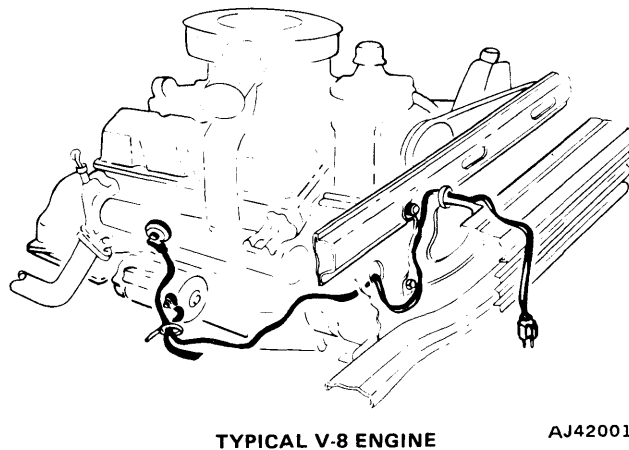

Fig. 2-18 Engine Block Heater Installation
- (1) Drain coolant from engine.
- (2) Remove core plug and install block heater (fig. 2-18). Tighten six-cylinder T-bolt to 20 inch-pounds torque. Tighten V-8 compression nut to 10 foot-pounds torque.